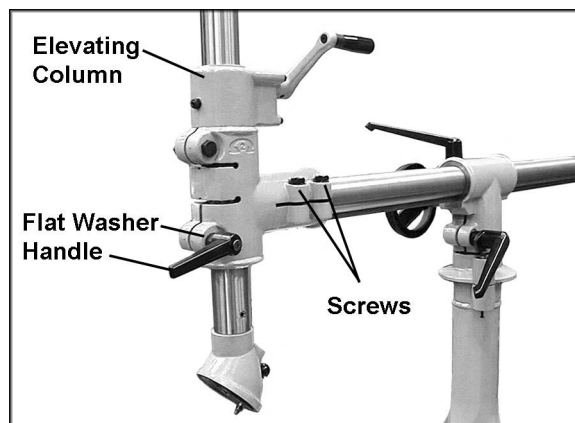

Figure 5
14. Install the elevating column onto the horizontal arm (Figure 5). Make sure the horizontal arm slides all the way into the sleeve of the elevating column (The end of the rack on the horizontal arm will almost touch the sleeve). Check that the elevating column assembly is in the vertical position. Tighten the two screws on the sleeve (Figure 5) with a 19mm wrench.
15. Install a flat washer and handle on the screw of the elevating column (Figure 5).